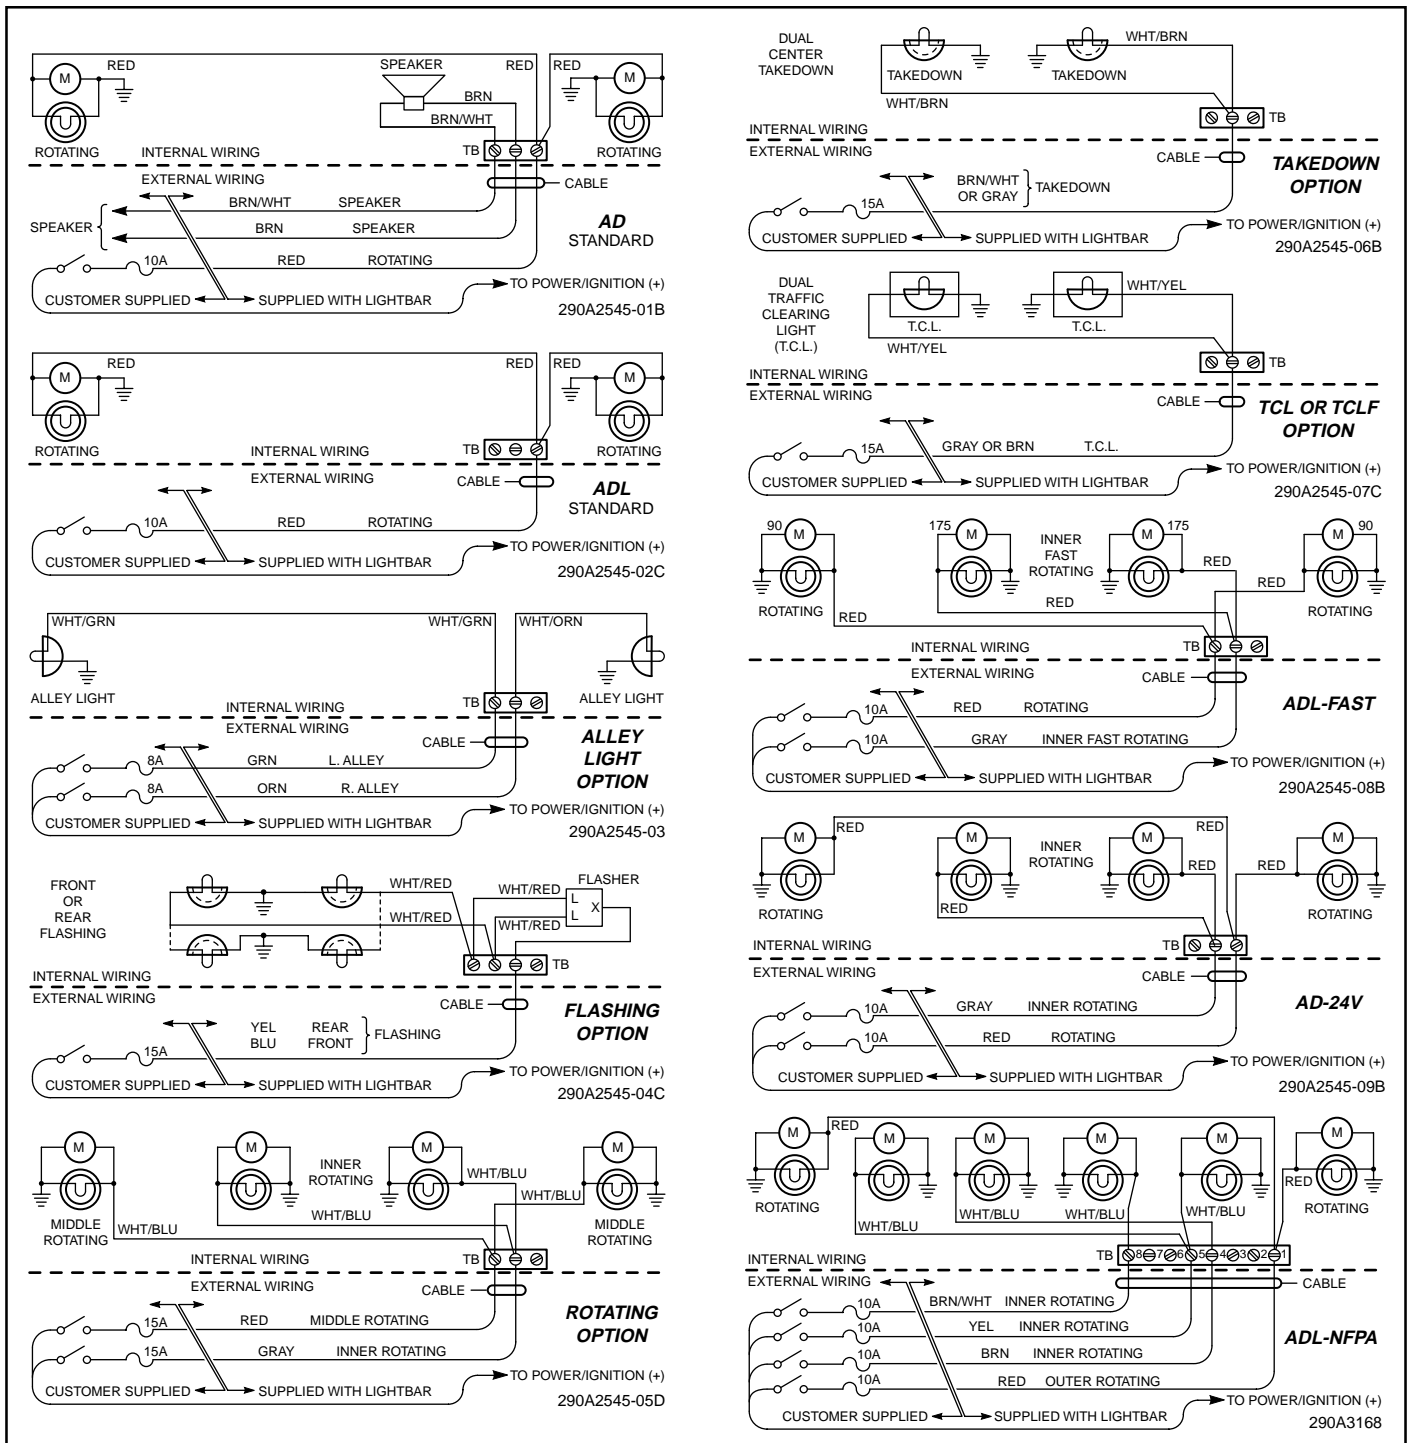

Figure 1.
2. For proper operation, the control cable must be properly terminated inside the user-supplied control head. Use figure 1 as a guide and make the appropriate electrical connections shown in table 1 or 2, as applicable. Ensure that the lines are adequately fused as shown in figure 1.